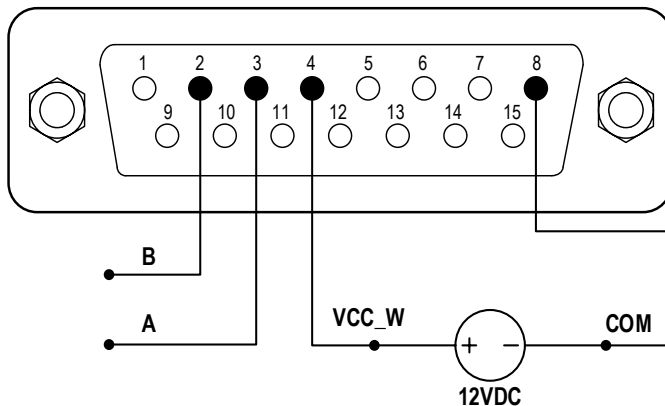

Figure 20. RS485 MODBUS Wiring
- 1) When the power is off, wire the DB15 connector as shown in *Figure 20* and connect it to the DB15 port on the rear of the pump. An external DC power source is recommended to avoid electrical interference.